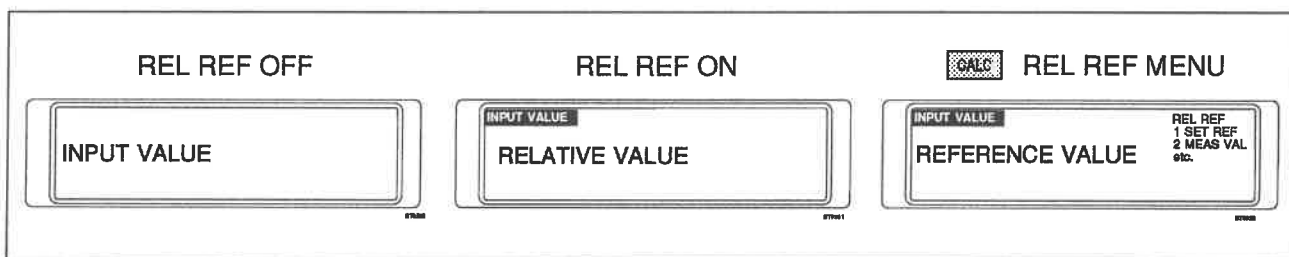

Fig. 4.35 Relative reference function displays.
Fig. 4.35 shows the display at normal measurements (REL REF OFF), at relative measurements (REL REF ON), and during setting the reference value via the CALCULATION function.
- 5. REL REF** to invoke the REL REF menu; the display shows the current reference value, and the actual input value (see Fig. 4.35).